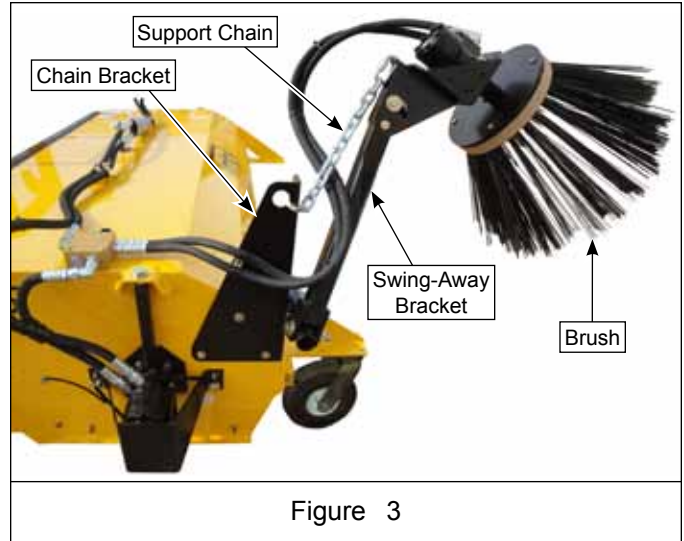

Figure 3
5. If so equipped, detach the support chain from bracket and lower curb/gutter broom. Remove chain from swing-away bracket. See Figure 3.